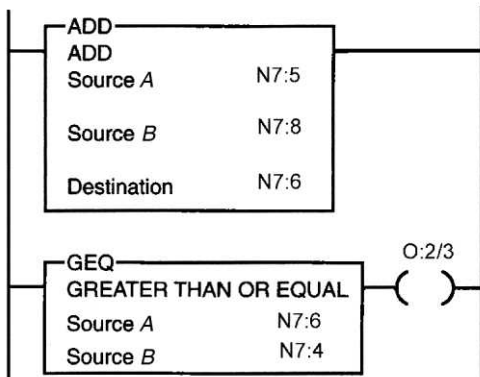

Figure 11-18 Program for question 10.
10. The program of Figure 11-18 is telling the processor to energize output O:2/3 whenever the sum of the values stored in words (a) ___ is (b) ___ or (c) ___ the value stored in word (d) ____.